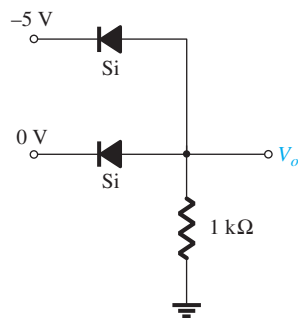

FIG. 2.164
18. Determine V_o for the negative logic OR gate of Fig. 2.164.